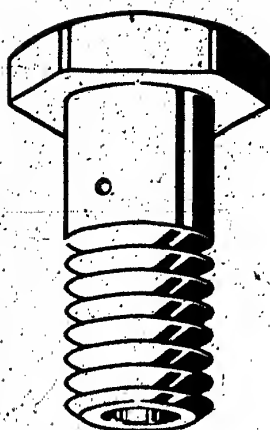
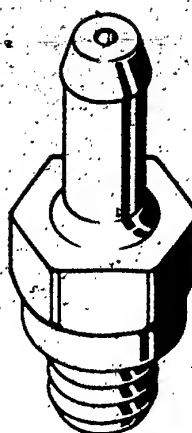

Fig. 1
Fig. 2
Distributor-type fuel-injection pumps (VE) for Opel Kadett and Ascona Diesel are not fitted with overflow throttles (Fig. 1), but with overflow throttle fittings (Fig. 2 - Opel part).